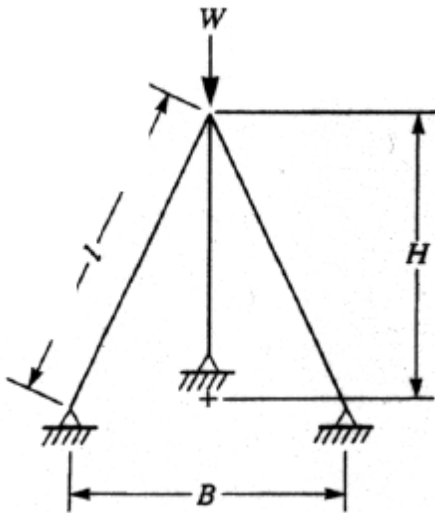

FIGURE E3.54 A tripod.
**Design of a tripod.** Design a minimum mass tripod of height  $H$  to support a vertical load  $W = 60$  kN. The tripod base is an equilateral triangle with sides  $B = 1200$  mm. The struts have a solid circular cross section of diameter  $D$  (Fig. E3.54).